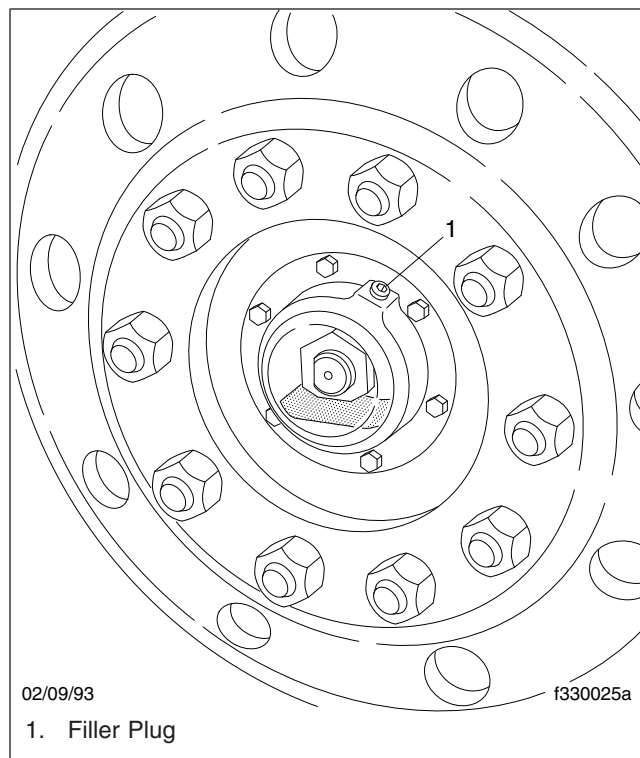

Fig. 7, Fill the Hub with Oil
9. Fill the hub with oil to the level shown on the hubcap. See Fig. 7. Do not overfill.